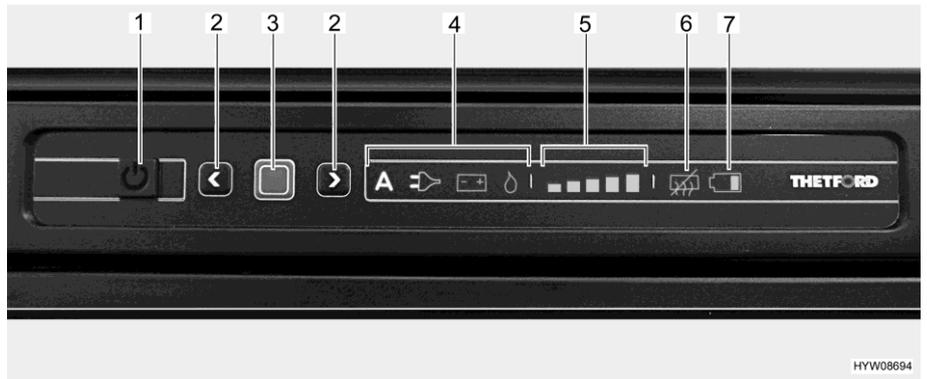

Fig. 134 LED operating panel (Thetford refrigerator)
- Press and hold the On/Off button (Fig. 134,1) for 1 second. The button lights up green. To save energy, after approximately 10 seconds the display is dimmed.
- Press confirmation button (Fig. 134,3). The operating mode previously selected is displayed.
- Press and hold the confirmation button (Fig. 134,3) for about 2 seconds. The operating mode symbols flash.
- Manual power selection: use the arrow keys (Fig. 134,2) to select the desired energy source.
- Automatic power selection (only version with automatic power selection): use the arrow keys (Fig. 134,2) to select the operating mode "A".
- Confirm your selection with the confirmation button (Fig. 134,3).
- Press confirmation button (Fig. 134,3) again. The cooling level indicator (Fig. 134,5) flashes.
- To change the setting, press the arrow keys (Fig. 134,2) until the desired setting is displayed.
- Press and hold the On/Off button (Fig. 134,1) for about 2 seconds. All lights go out. Refrigerator is switched off.
After switching it on, the refrigerator automatically selects the previously selected thermostat position. This position can be adjusted manually by using the arrow keys (Fig. 134,2). It takes a few hours till the refrigerator reaches its normal operating temperature. When changing over to another operating mode, the thermostat setting is kept.